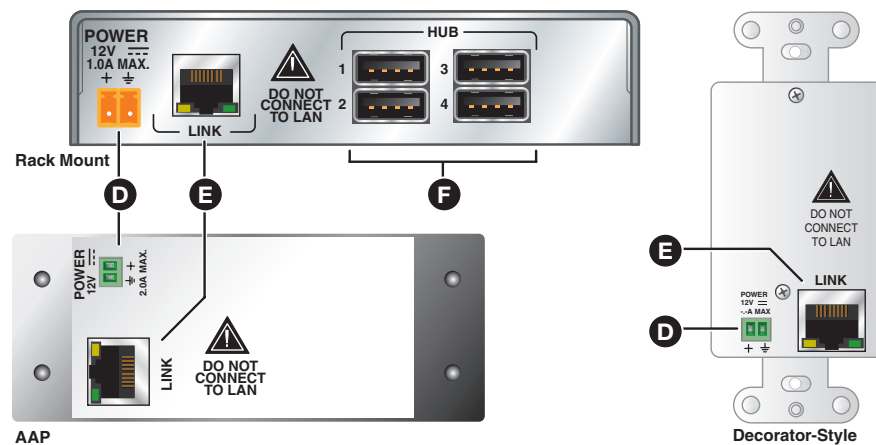

Figure 4. Receiver (Rx) Rear Panel Connectors
- C Link (twisted pair) connector** — Connect the TP cable from the receiver Link connector (see figure 4, **E**) to this RJ-45 female connector.
The Rx (receiver) rear panel (see figure 4) has a DC power input, twisted pair link connection, and also has four female USB Type A hub connectors. AAP and decorator-style receivers have the hub connectors on the front panel.